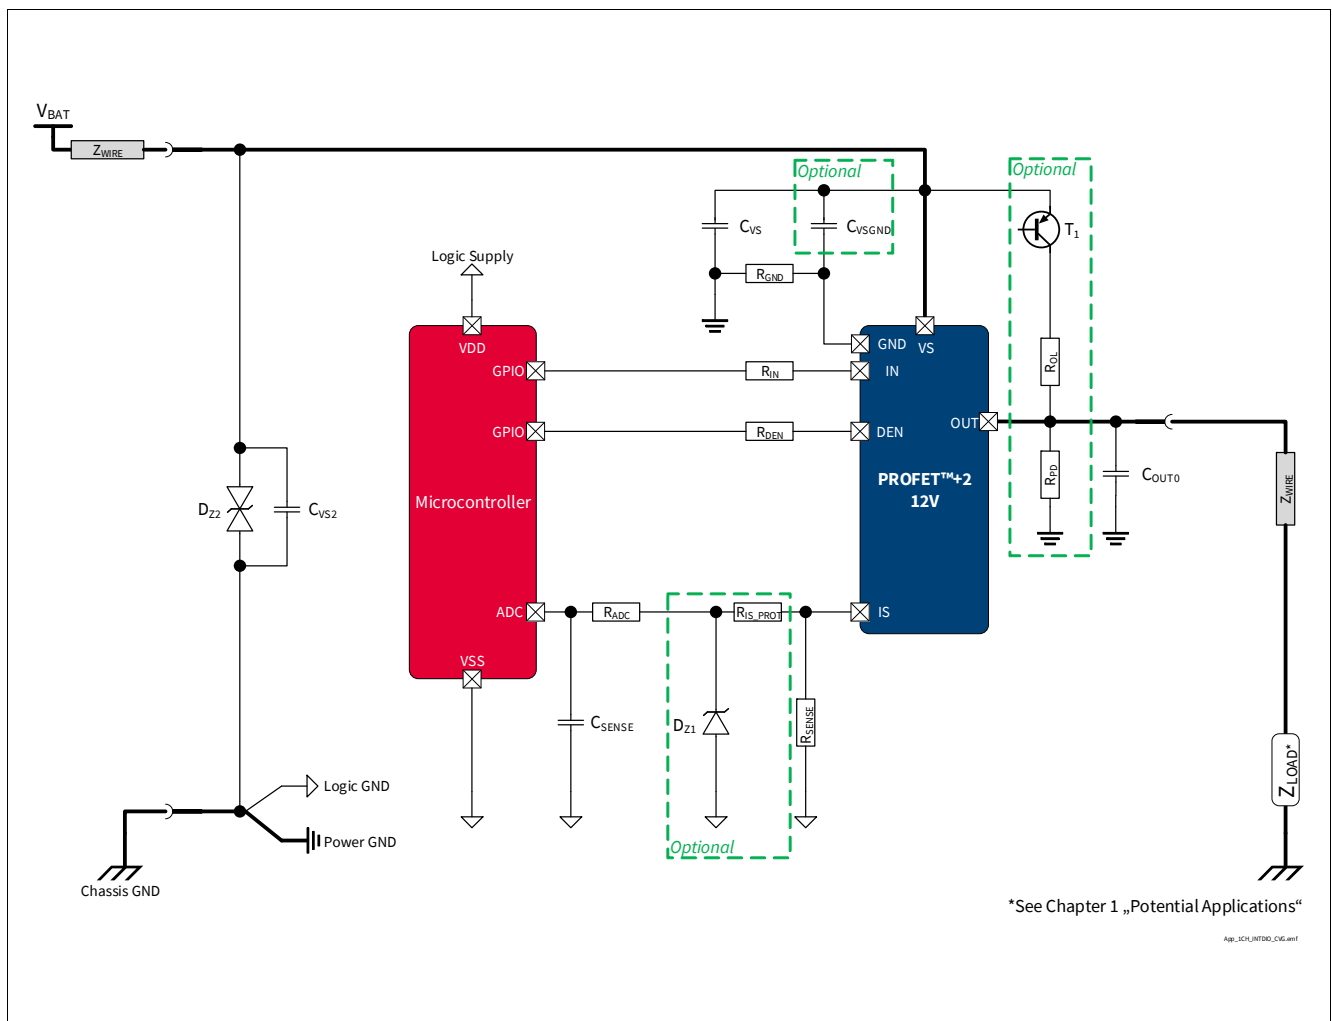

Figure 37 BTS7002-1EPP Application Diagram
1.04, 2019-10-15	<p>P_6.5.20.1 updated (Typ.: 0.01 μA \rightarrow 0.1 μA)</p> <p>P_8.7.10.1, P_8.7.10.7, P_8.7.10.8 updated (added in Note or Test Condition: link to Figure 24)</p> <p>P_7.5.10.5 updated (added in Note or Test Condition: see Figure 18)</p> <p>P_7.5.10.12 updated (added in Note or Test Condition: see Figure 20; deleted unnecessary space in Symbol: $dV_{\text{OUT}} / dt \rightarrow dV_{\text{OUT}} / dt$)</p> <p>P_8.7.10.6 updated (added in Note or Test Condition: see Figure 25)</p> <p>P_9.7.10.1 updated (added in Note or Test Condition: see Figure 32)</p> <p>Figure 1, Figure 37 updated</p> <p>P_4.3.0.7 added</p> <p>Table 22 updated</p> <p>Chapter 5.1 updated (added: see Chapter 10 for the complete application setup overview)</p> <p>Chapter 9.2 updated ($2\text{ V} \rightarrow V_{\text{DS(OFF)}}$)</p> <p>General: updated (ReverSave™ \rightarrow ReverseON)</p>
1.01, 2018-06-14	<p>Page numbering corrected</p> <p>Figure Application Diagram, Figure 29, Figure 37 updated</p>